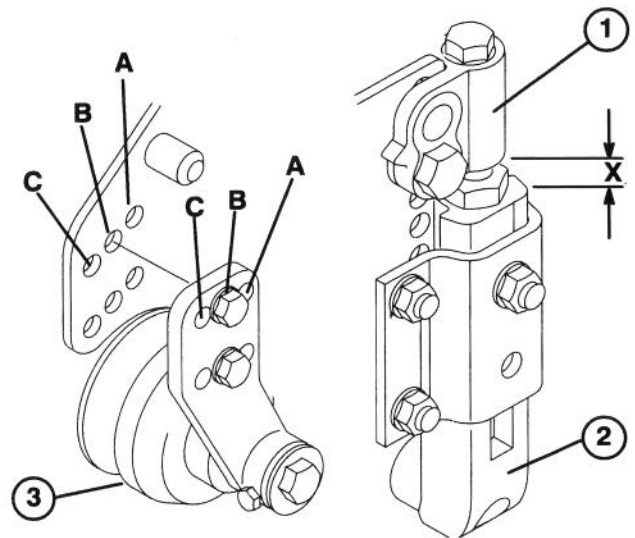

Figure 7
4. Adjust the capscrew on each side of cutting unit to attain proper distance between the height-of-cut support and the rear roller bracket. Refer to figures 6 & 7 for the required distance between the height-of-cut support and the rear roller bracket (dimension X in figure 7) per front roller mounting location.
Front Roller Position	Distance Between the Height-of-Cut Support and Rear Roller Bracket (Dimension X in Figure 7)